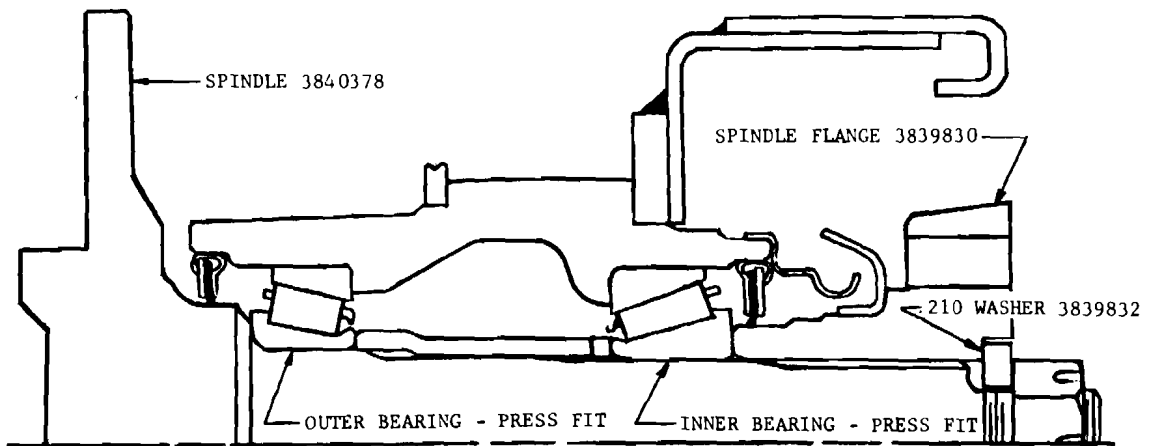

FIGURE 3
- D - Beginning with December 3, 1962 production, a new design spindle 3840378 replaced spindle 3817724. The new spindle incorporates interference fit inner and outer bearing diameters. This new spindle is used in conjunction with drive flange 3839830 and washer 3839832, and is assembled with 100 lb. - ft. drive flange nut torque (Figure 3).
REAR WHEEL SPINDLE - DESIGN D - FIGURE 3